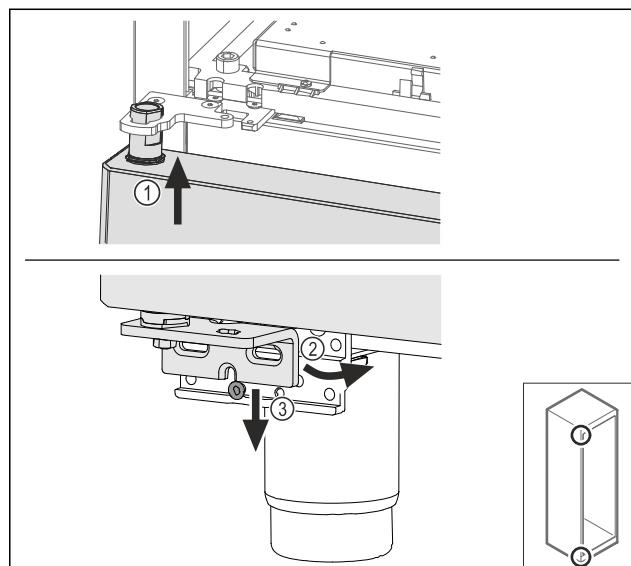

Fig. 60
- ▶ Feed in the door slightly tipped at the top Fig. 60 (1), align the door straight Fig. 60 (2) and fit the swap bearing blow screw Fig. 60 (3) at the bottom.